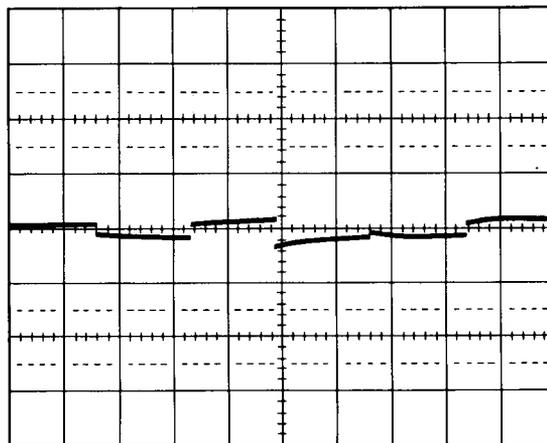

Figure 5-42. Reset Pulse to Zero Voltage Average
10. Adjust A58R1 (RESET, Figure 5-41, 2 of 2) for as close as possible to zero volt average on the oscilloscope. (See Figure 5-42.)
12. Connect DVM LO to A22TP1 (GND) and DVM HI to A22TP2 (S/H). Adjust A22R37 (OS) for a 0 ± 1 mV indication.